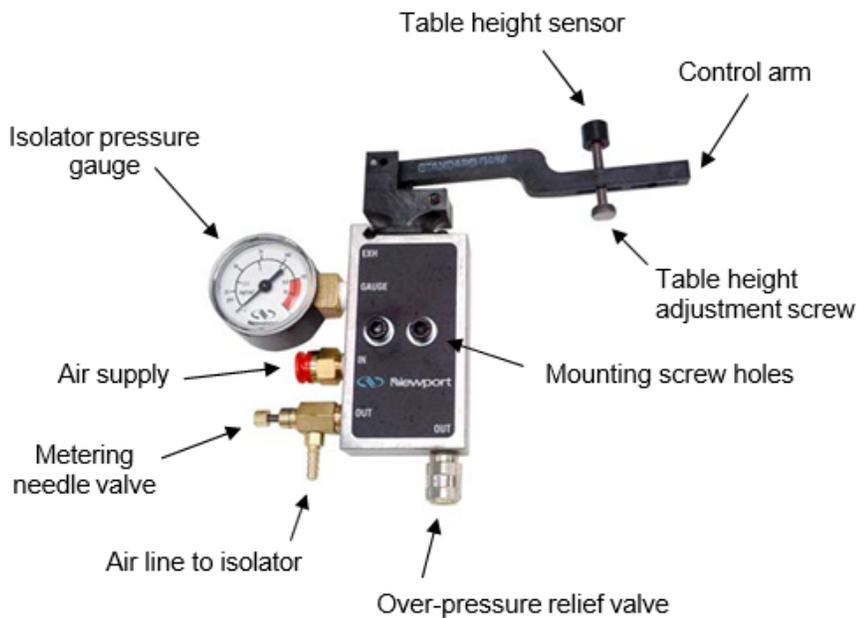

Figure 5 — IPV Leveling Valve
The IPV leveling valve is shown in Figure 5. Three valves are used in all systems, regardless of the number of isolators, as only three points are required to determine a plane. The leveling valve locations are selected such that they form the largest triangle possible under the table. The larger the triangle, the more stable the system will be. When two or more isolators are controlled by the same valve, they act as a single large isolator supporting the table at the center of force of the several isolators. The floating height of the system is determined at the valve position. Therefore, ideally, the valves should be located at the center of force of the isolators they control. In practice, however, simply grouping the isolators and their control valves is sufficient. The groups of isolators and their valves act as three legs for the system. The center of gravity of the combined table and payload must be within the triangle formed by the centers of force of the isolator groups for the system to float. Figure 8 shows valve and isolator arrangements for rectangular tables. Complex table shapes require isolator and valve layouts designed specifically for each application.
2. Adjust the Table Height sensor screw of each isolator (Figure 5) as required to obtain this gap. When all isolators are adjusted, re-check the level of the table. **NOTE:** this step should require only minor adjustments. Do not move the small set screw near the pivot of the valve control arm.